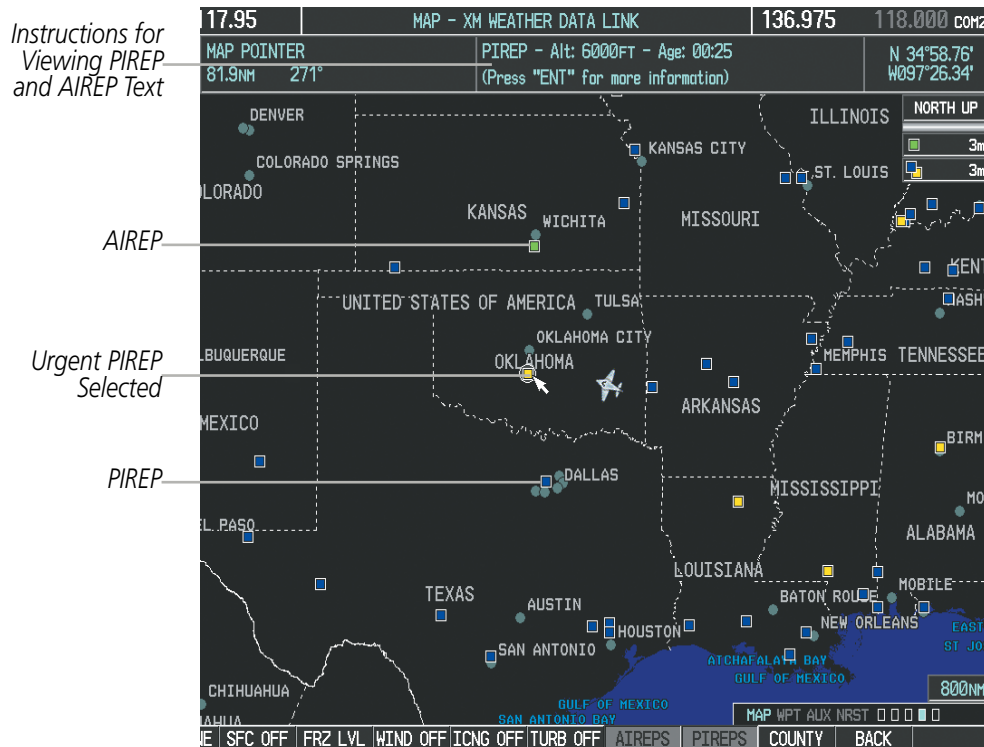

Figure 6-42 AIREPs and PIREPs on the XM Weather Data Link Page
Pilot Weather Reports (PIREPs) (Figure 6-42) provide timely weather information for a particular route of flight. When significant weather conditions are reported or forecast, Air Traffic Control (ATC) facilities are required to solicit PIREPs. A PIREP may contain adverse weather conditions, such as low in-flight visibility, icing conditions, wind shear, and turbulence. PIREPs are issued as either Routine (UA) or Urgent (UUA).